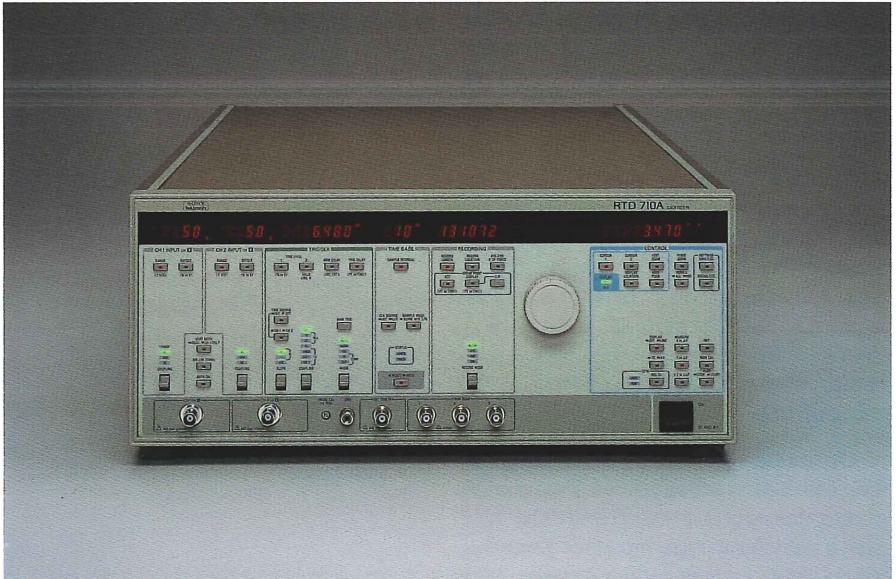

**Figure 2.** In the DVM/Counter mode, a table of measured values is displayed. Note the reduced view of the waveform at the bottom of the display area.
**Figure 2.** *The TD1301 Viewing Package (above) and the TD2301 Acquisition/Processing Package (right) support the high performance digitizing capabilities of the RTD 710A waveform digitizer.*